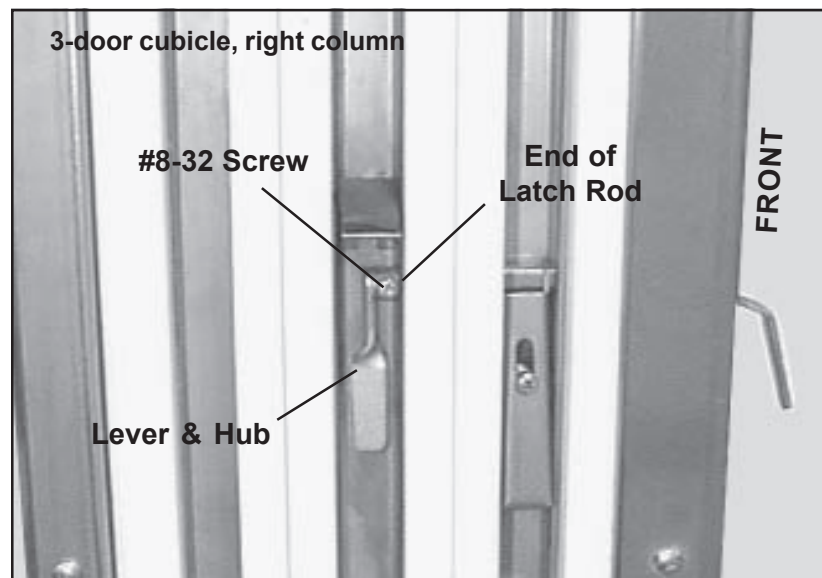

Figure 67. Lever and Hub
2. With a Phillips screwdriver, remove the #8-32 screw that holds the lever and hub to the latch rod (Figure 67).